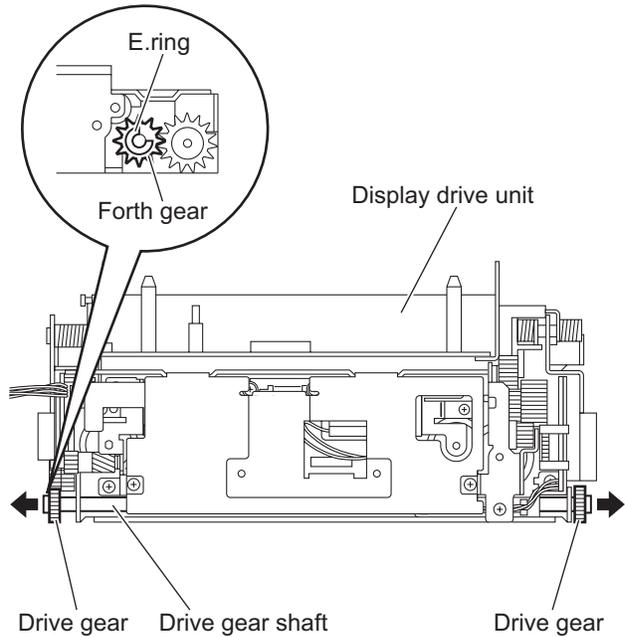

Fig.4
- From the top side of the display drive unit, pull the drive gears out of a drive gear shaft in the direction of the arrow while holding the drive gear shaft. (See Fig.4.)
Remove the drive gear shaft as required. (See Fig.4.)
- From the left side of the display drive unit, remove the E.ring fixing the forth gear. (See Fig.4.)
- Remove the forth gear toward this side. (See Fig.4.)